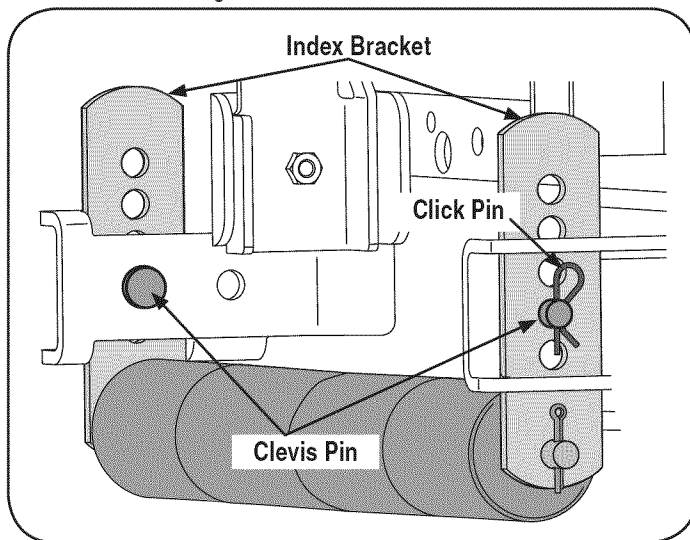

Figure 26
1. While supporting the roller assembly, remove click pin and withdraw the clevis pin from both the left and right roller index brackets. See Figure 26.
3. Align the nearest index bracket holes with the holes in the deck mounting brackets. Insert the clevis pins through the deck brackets and the index brackets and secure with the click pins. See Figure 26.